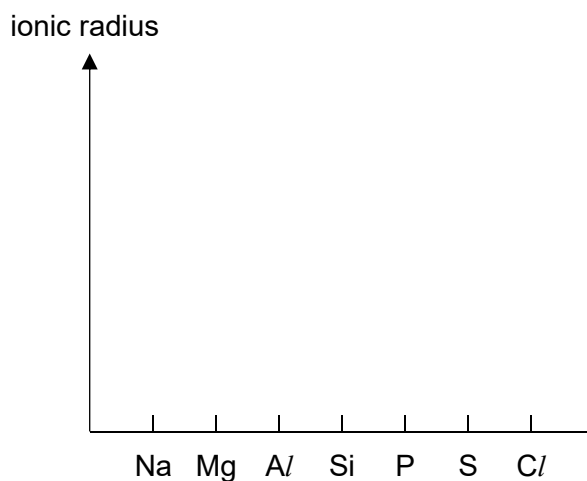

Fig.1.1
- 1 (a) In Fig.1.1, sketch a graph to show the variation of ionic radius across Period 3. Explain the shape of your graph.